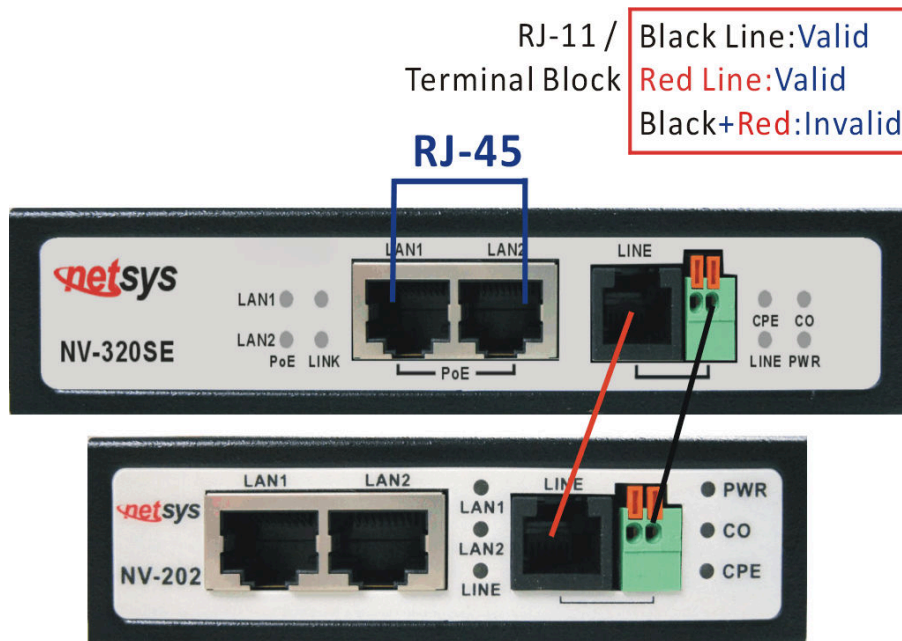
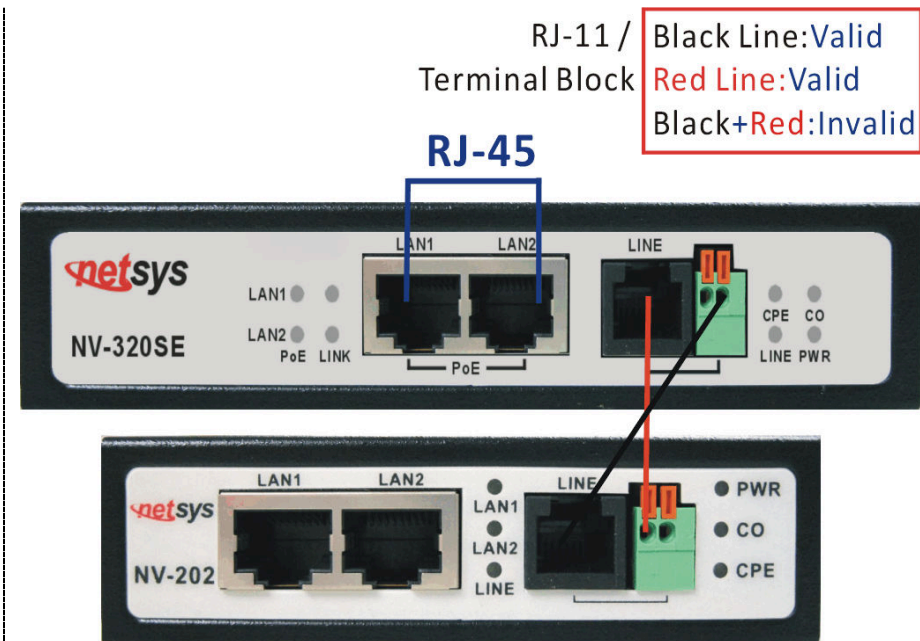

Figure 2.4 NV-320SE line ports straight connection
Figure 2.5 NV-320SE line ports crossover connection
- ◆ Line port supports RJ11 or Terminal block combo port: It is used to connect from NV-202/NV-500/NV-320SE (CO side) to NV-202/NV-500/NV-320SE(CPE side) over single pair phone cable . Take note that NV-320SE line port cannot be used at the same time. Either RJ-11 port is connected or terminal block is connected using straight connection (Figure 2.4) or cross-over connection (Figure 2.5)